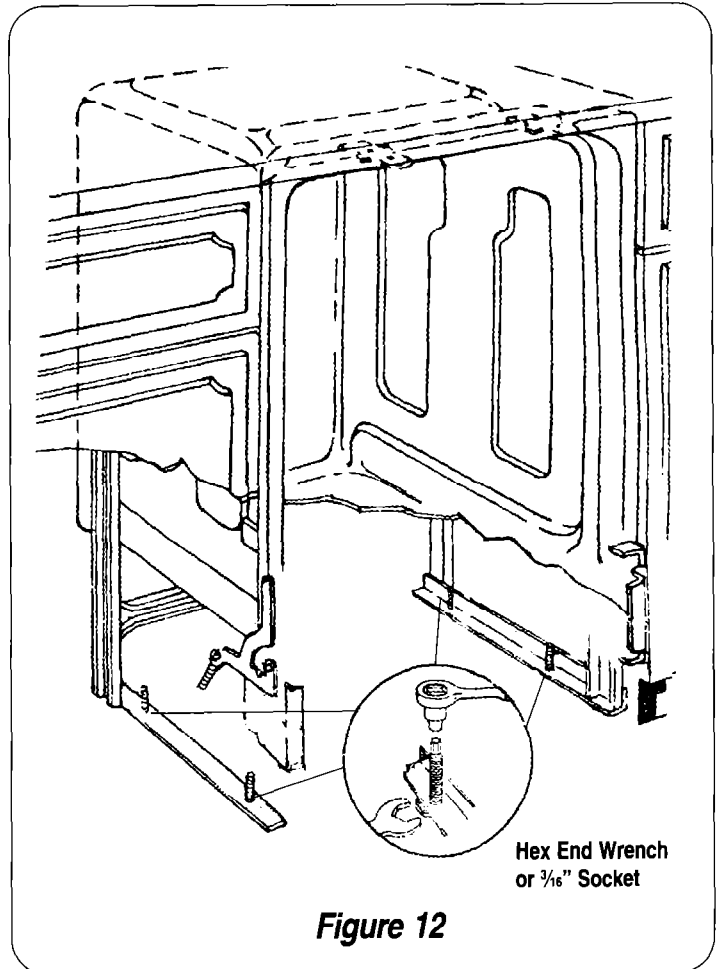

Figure 12
- Adjust the front levelers so the top of the machine is 1/4" below the underside of the countertop (see Figure 12).